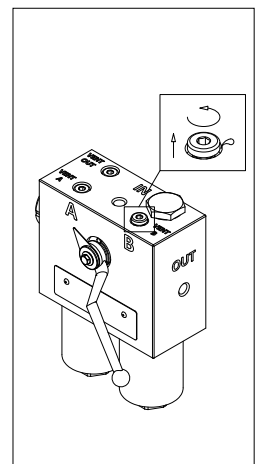

fig. 5
- (Fig. 5) Loose the breather plug on the waste side "Vent A" or "Vent B" by a maximum of one turn